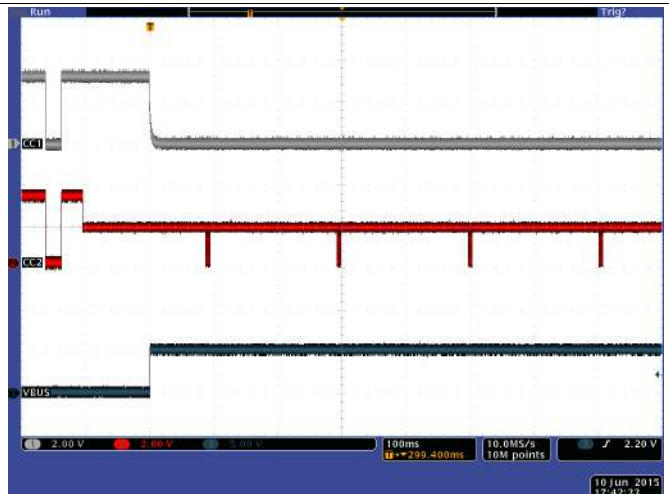

Figure 10. Type-C Connection and VBUS
- Verify that VBUS is reaching 5 V when connected (see Figure 10).